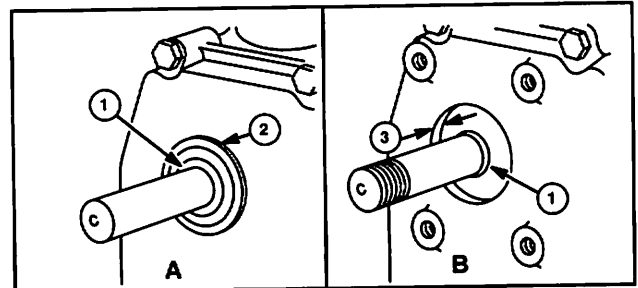

Fig. 19
Most oil seals are pressed in (Illustration A), flush with the hub (2). However, Model Series 60000, 80000, 100000 and 130000 using a ball bearing with mounting flange have the seal pressed in (Illustration B), 3/16" (4.75 mm) below crankcase mounting flange (3), Fig. 19.